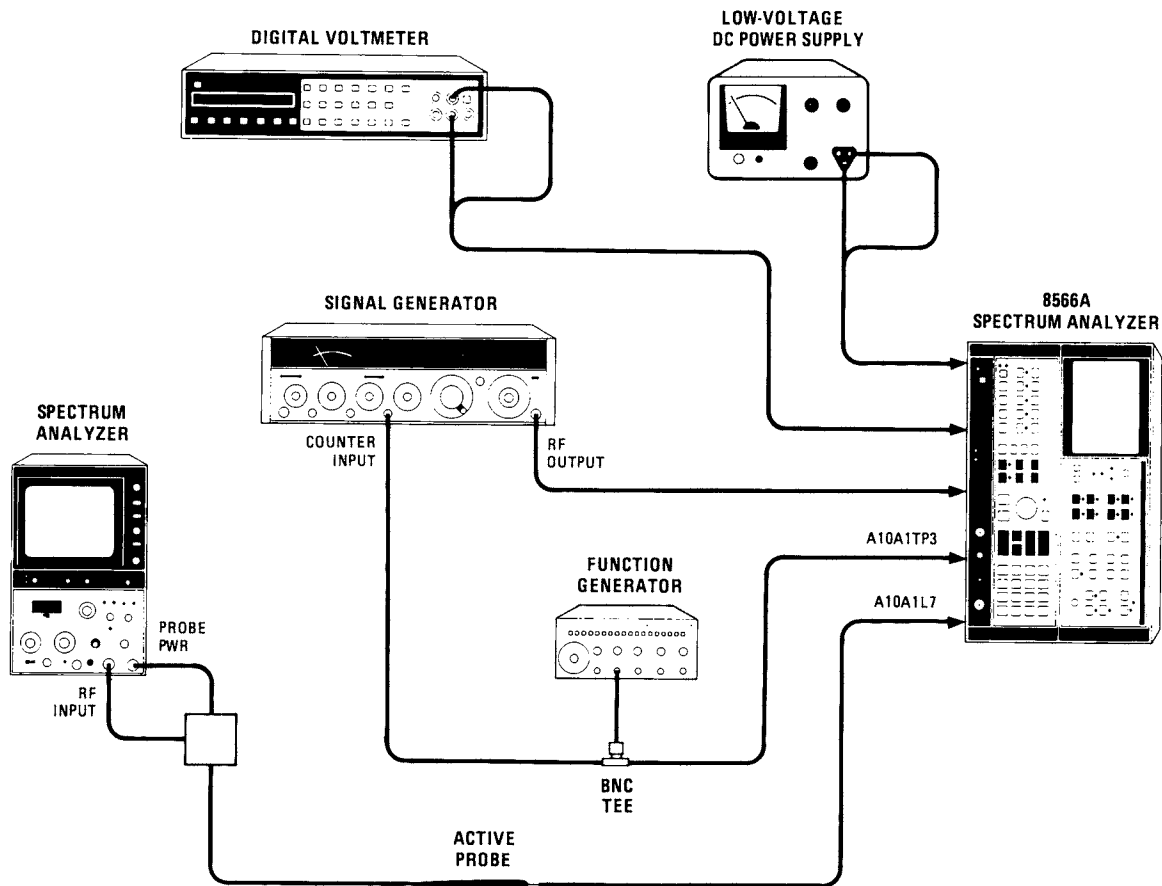

Figure 5-54. 20/30 Loop Phase Lock Adjustments Setup
2. Connect function generator 50 Ohm Output to A10A1TP3 and connect frequency counter (8640B) as shown in Figure 5-54.